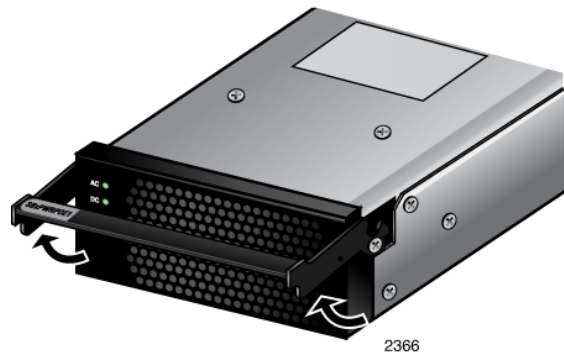

Figure 50. Unlocking the Handle on the AT-SBxPWRPOE1 Power Supply
4. Raise the locking handle on the AT-SBxPWRPOE1 Power Supply, as shown Figure 50 on page 110.